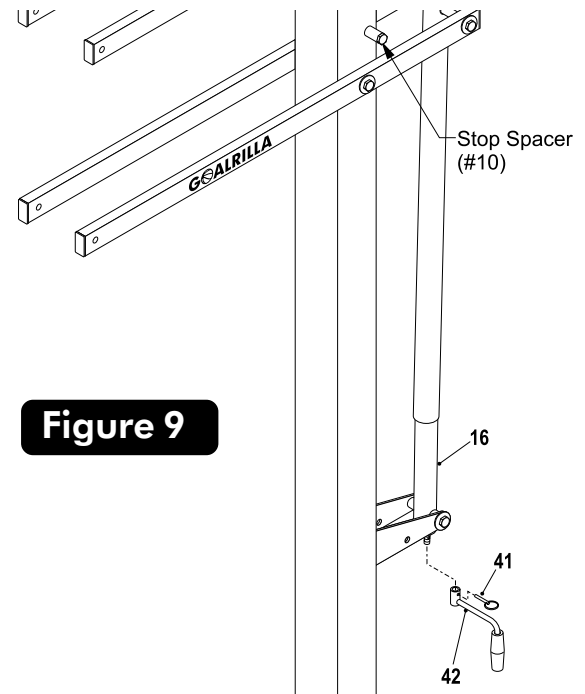

Figure 9
- To aid in the assembly of the backboard lower the backboard, by turning the Actuator Crank, until the lower arm makes contact with Stop Spacer (#10) See Figure 9.